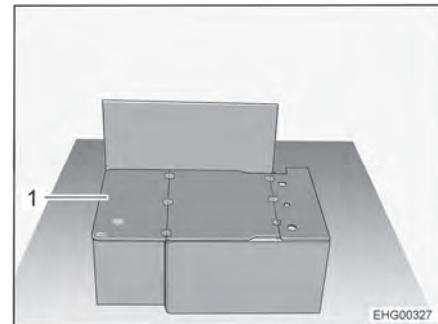

Fig. 22 Divan without cushions
- Fold the support board (Fig. 22,1) by 180° and set it down on the bench seat cover.